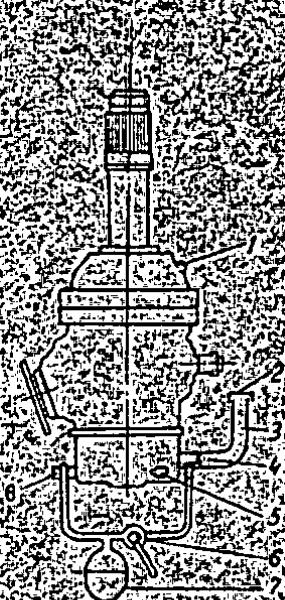

Fig. 12. P-3 gearbox for road lubrication diagram.
12. Operating the hand-operated pump build up a pressure (kg/cm² x) (not earlier than 30 sec before starting the engine) the main gearbox oil system and maintain it during 1 min, after the engine has been started in order to fill the cavities of the gearbox parts with oil (Fig. 12).